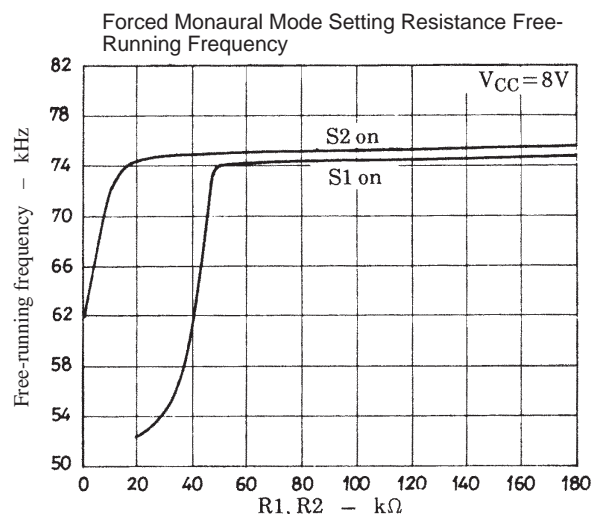

Figure 3
Either above-mentioned (1) or (2) causes the forced monaural mode to be entered. In this case, the VCO does not stop operating. If the resistance of R1 and R2 are decreased, internal bias will vary when the S1 or S2 is turned ON. This data is shown in Figure 3.